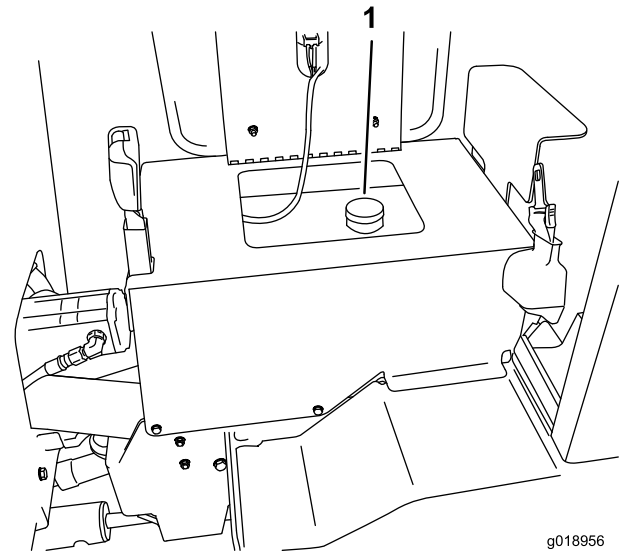

Figure 7
2. Remove the fuel tank cap (Figure 7).